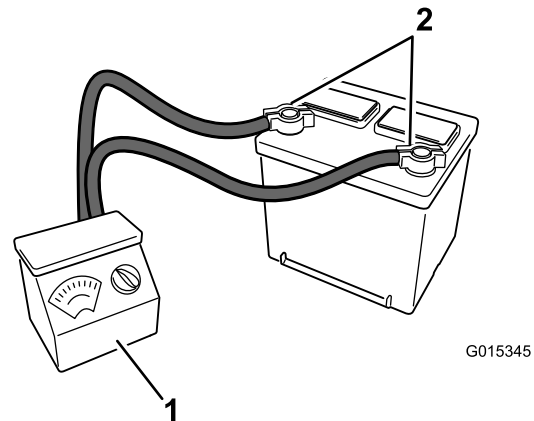

Figure 2
5. Connect a 3 to 4 amp battery charger to the battery posts (Figure 2). Charge the battery at a rate of 3 to 4 amps until the specific gravity is 1.250 or higher and the temperature is at least 60°F. (16°C) with all cells gassing freely.
- When the battery is fully charged, unplug the charger from the electrical outlet, then disconnect the charger leads from the battery posts (Figure 2).